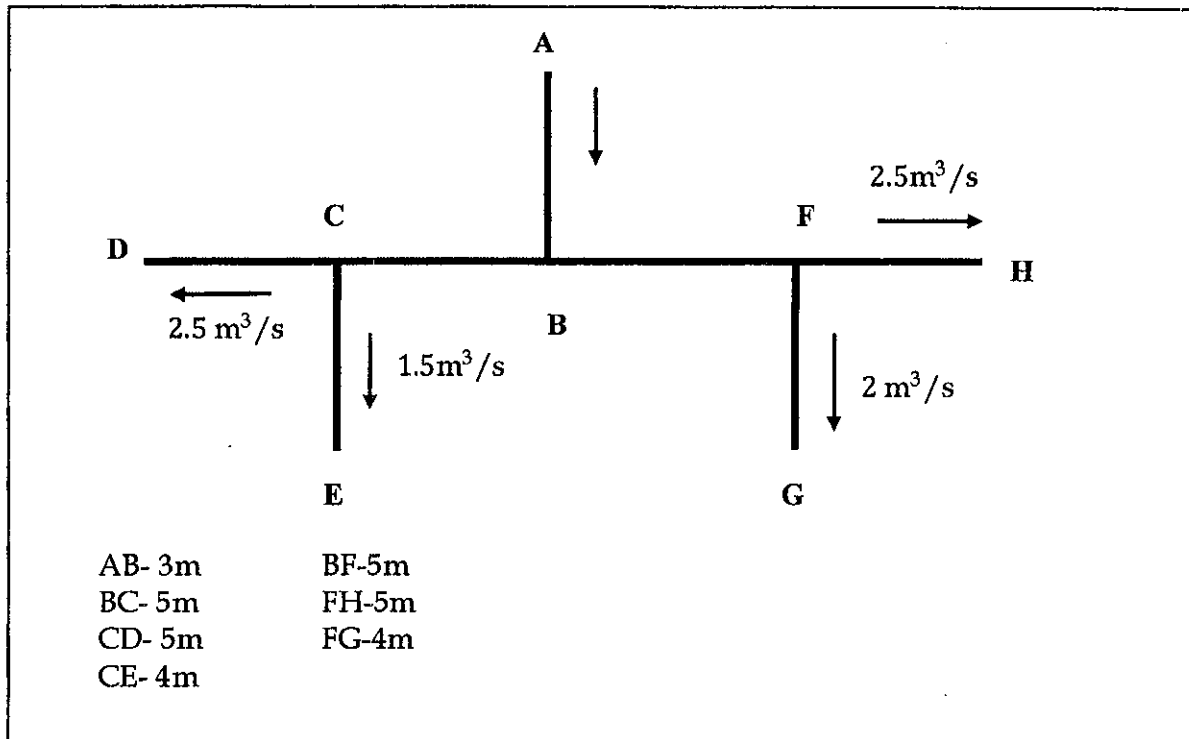

Figure Q2(e): Duct layout
- e) Figure Q2 (e) is a proposed layout plan of a supply air duct in a hotel. The air flow rate requirements for each space and the length of the main duct and its branches are also shown in the same figure. The duct material is galvanized steel and the cross section is a rectangular with an aspect ratio of 3:2. Determine the following by using the equal-friction method in duct designing.